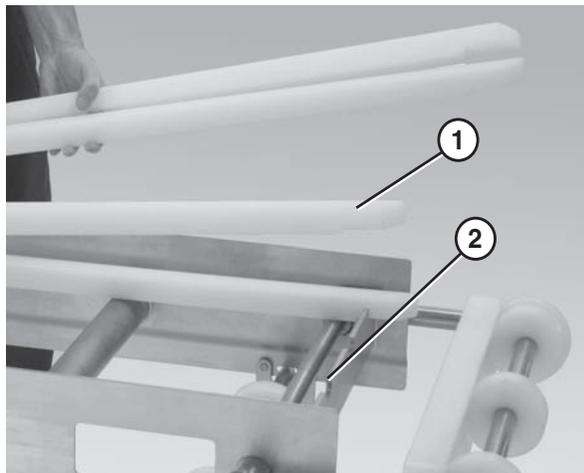

Figure 22
1. Position the wear strips (Figure 22, item 1) on the frame.
2. Make sure the wear strips are situated securely in the frame slots (Figure 22, item 2).